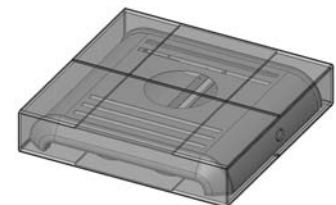

Figure 4 - Kasai stove ceramic packaging
- one contains the metal top fig.4 pieces "1-2-3-4-5"